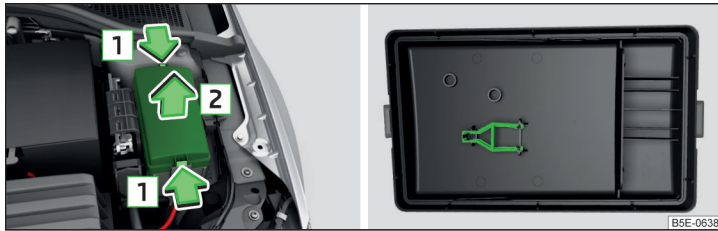

Fig. 353 Fuse box cover: Removing the cover / Plastic clip for fuses
- Remove the plastic clip under the cover of the fuse box in the engine compartment » Fig. 353 on page 300.
- › Simultaneously press the lock buttons of the cover together in the direction of arrow **1** and remove the cover in the direction of arrow **2** » Fig. 353.
- › Remove the plastic clip under the cover of the fuse box » Fig. 353.